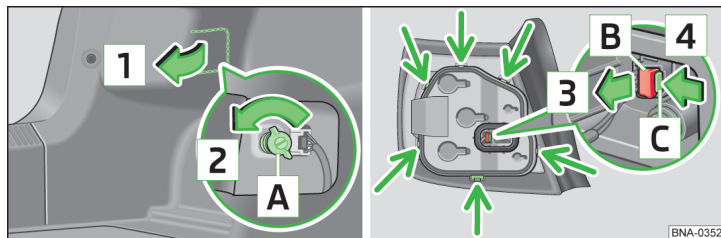

Fig. 115 Removing the light/pulling out the connector
- › Lift up the cover in the direction of arrow **1** » fig. 115.
- › Tightly screw the light with the plastic nut **A** in the opposite direction to arrow **2** » fig. 115.
- › Unlock the bulb holder using the locking latches in the areas » fig. 115 on page 102 marked with arrows and remove the bulb holder from the light.